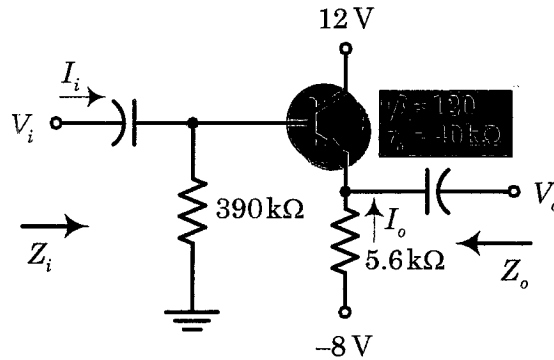

Figure Q3 (b)
- (b) For the Emitter Follower network of Figure Q3(b).